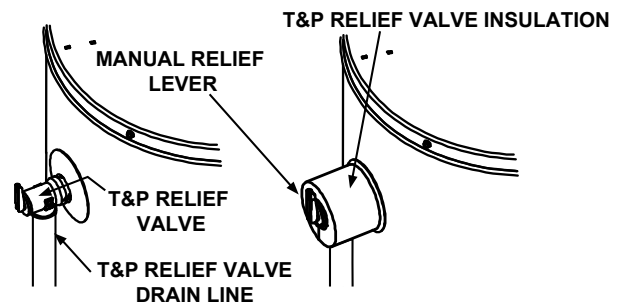

FIGURE 15B.
1. Locate the temperature and pressure relief valve on the water heater (also known as a T&P relief valve). See Figure 15B.
3. Spread the slit open and fit the insulation over the T&P relief valve. See Figure 15B. Apply gentle pressure to the insulation to ensure that it is fully seated on the T&P Relief Valve. Once seated, secure the insulation with duct tape, electrical tape, or equivalent. **IMPORTANT:** The insulation or tape should not block or cover the T&P relief valve drain opening. Also, the insulation or tape should not block or hinder access to the manual relief lever (Figure 15B). Ensure that a discharge pipe is installed into the T&P valve discharge opening per the instructions in this manual.